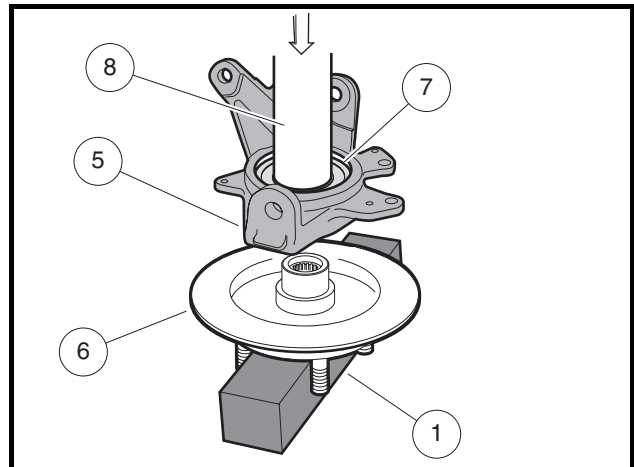

Figure 6-15 Press Disc and Hub into Bearing
15. Press the shaft on the disc and hub into the bearing (**Figure 6-15, Page 6-13**).
15.1. Position the disc and hub (6) onto a 2 x 2-inch, or larger, steel block as shown (**Figure 6-15, Page 6-13**). **See following CAUTION.**